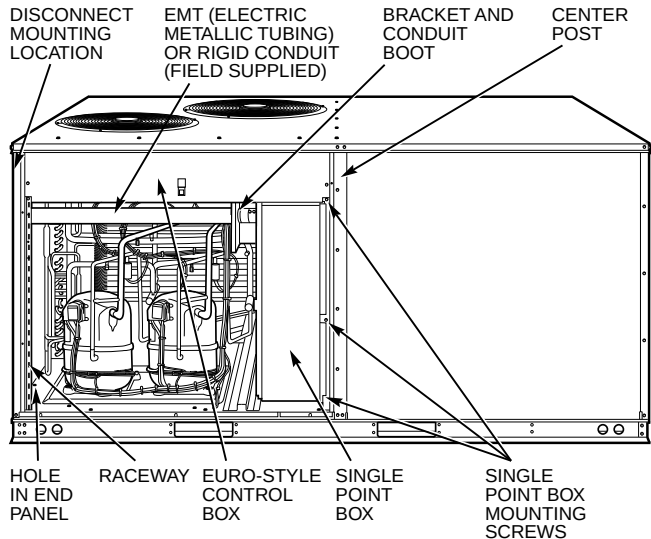

Fig. 7 — Component Location
1. Install conduit through side panel openings. Install conduit between disconnect and single-point box. Refer to Fig. 7 and 8.